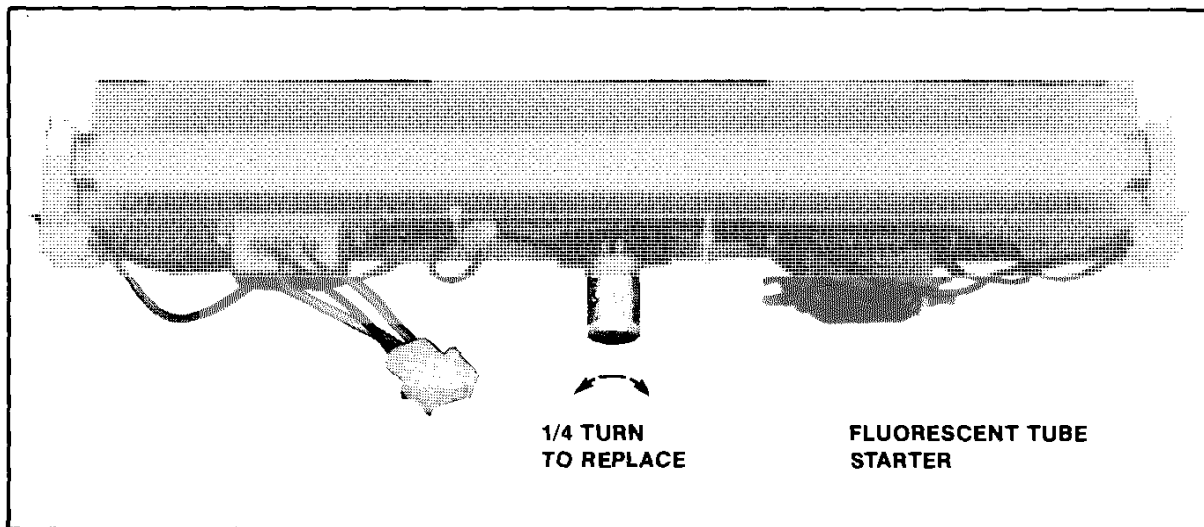

Figure 3-7 Replacing Fluorescent Tube Starter
- Replacing the fluorescent light tube starter. See Figure 3-7.
- Replacing the black light tube starter. See Figure 3-7.